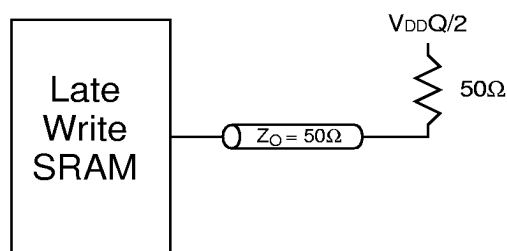
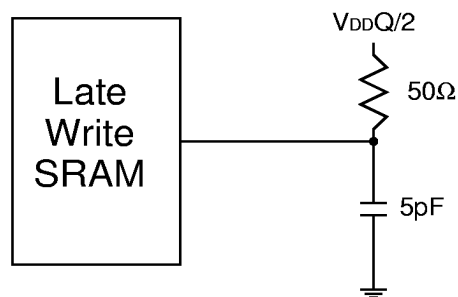

Figure 1
Figure 2
1. Output loading is specified with Figure 2. Transition is measured $\pm 200\text{mV}$ from steady state voltage.
3. This is a synchronous device. All addresses must meet the specified setup and hold times for all rising edges of CK when SS# is enabled. All other synchronous inputs must meet the setup and hold times with stable logic levels for all rising edges of clock (CK) when the chip is enabled. Synchronous select (SS#) must be valid at each rising edge of CK to remain enabled.
4. Test conditions as specified with the output loading as shown in Figure 1 unless otherwise noted.
Output load	See Figures 1 and 2